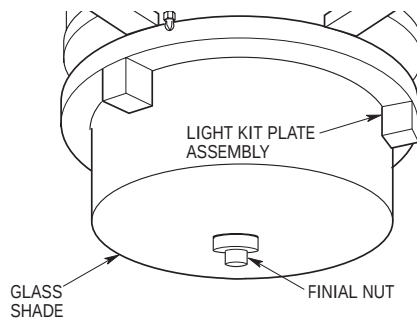

Figure 23
- 6. Position the glass shade over the threaded nipple in the light kit plate assembly (Figure 23). Seat the glass shade evenly over the plate assembly and securely install the rubber lockwasher, hex jamnut, and finial nut (previously removed) on the threaded nipple.